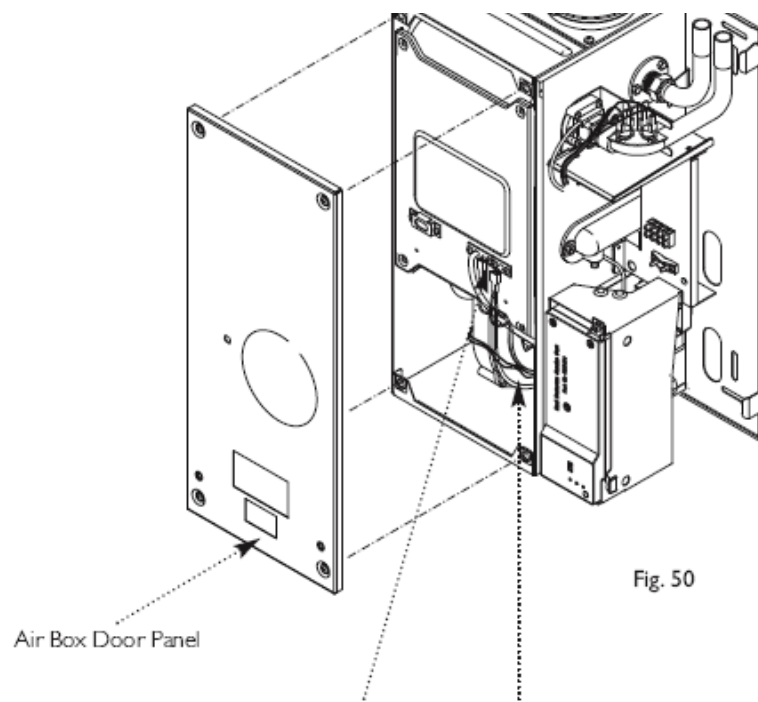

Fig. 50
1. Remove the airbox door panel by loosening the four ¼ turn screws (Fig. 50).